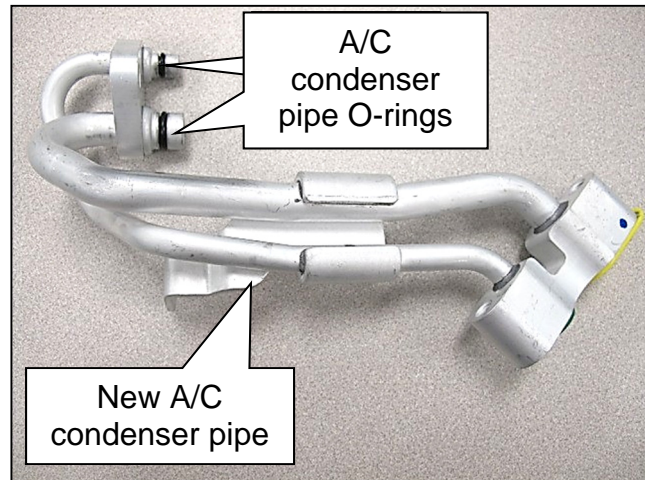

Figure 19
- b. Verify the O-rings are present and undamaged (Figure 19).